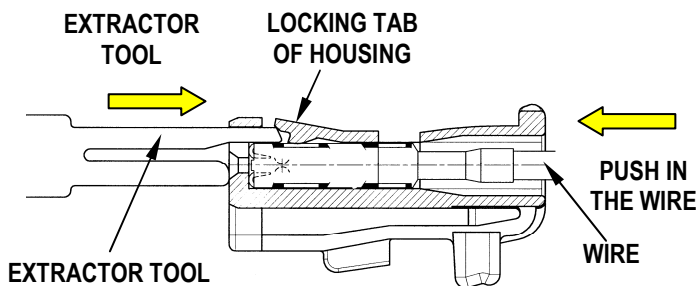

Figure 3
2. When the cover is open, push the wire of the crimped terminal forward in the arrow direction shown before using the Extractor Tool. See Figure 3.
4. Insert and slide the Extractor Tool into the slot of the connector housing. Positioning it under the housing lock as shown in Figure 3.